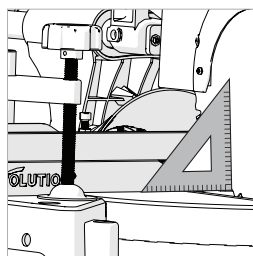

Fig. 13
- Place the Set Square on the table with one short edge against the table and the other short edge against the blade (avoiding the TCT tips). (Fig. 13)